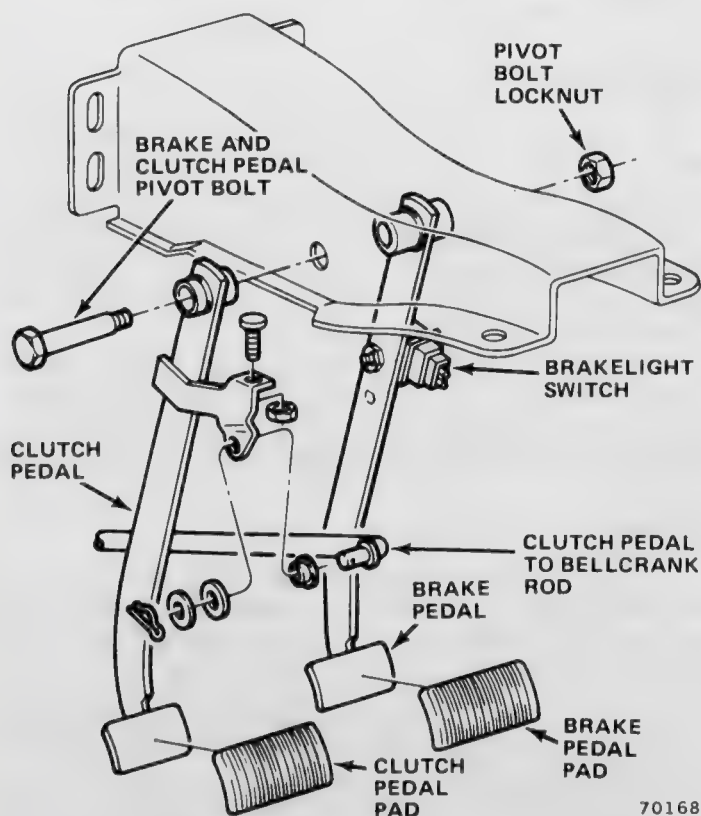

Fig. 2F-2 Brake and Clutch Pedals (Typical)
All cars are equipped with a suspended-type brake pedal (figs. 2F-1, and 2F-2). The pedal pivots on a bolt mounted in the pedal support bracket which is attached to the dash and instrument panels. On cars with manual transmission, the clutch pedal also pivots on this bolt. Bushings are installed in the brake pedal pivot bore for smooth pedal operation.
- (1) On Gremlin, Concord and AMX models, disconnect battery negative cable, remove package tray if equipped, remove fuse panel attaching screws, and move panel aside.
- (2) On Pacer models, remove steering column tube cover, and remove intermediate duct (under dash) if equipped with air conditioning.
- (3) On cars with manual transmission, disconnect clutch push rod at clutch pedal (fig. 2F-2).
- (4) Remove brake pedal bolt and brakelight switch as outlined under Brakelight Switch—Removal.
(5) Remove and discard pedal pivot bolt locknut and remove pivot bolt and brake, or clutch and brake pedals (fig. 2F-2).
(6) Inspect brake pedal pivot bushings. Replace pedal if bushings are worn, cracked, galled, or cut.